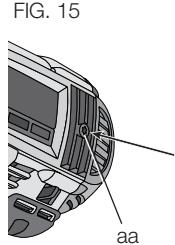

FIG. 15
1. Using the key (K) provided, loosen the two screws (aa) on either side of the unit. Refer to Figure 15.